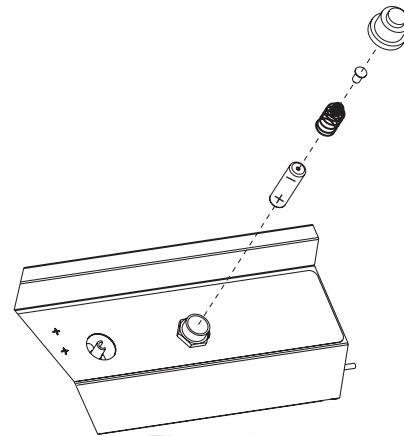

Figure 27
- Re-attach the ignitor to the control panel, then tighten nut and insert AA battery, positive side down, and replace ignitor button. **See Figure 27.**